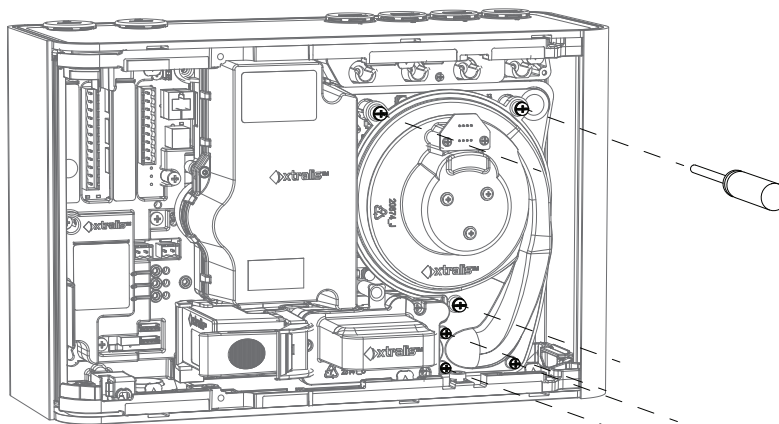

Figure 7-8: Remove aspirator mounting screws
4. Remove the six screws holding the aspirator to the detector base (Figure 7-8).